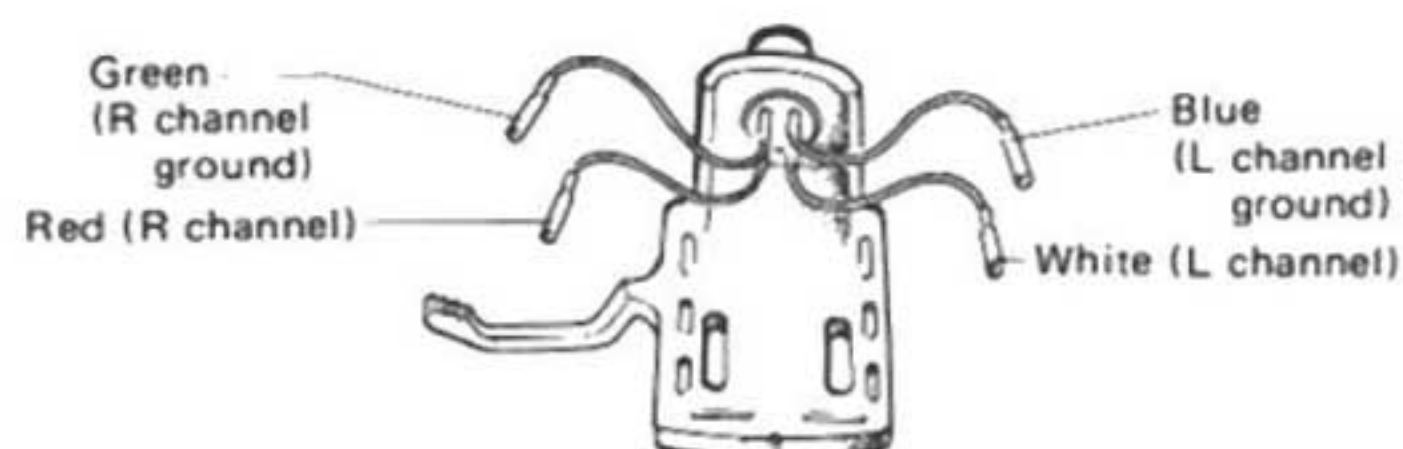

Fig. 3
1. Connect the headshell leads to the cartridge. Refer to Fig. 3 for the polarity of these leads and connect plus to plus and minus to minus.